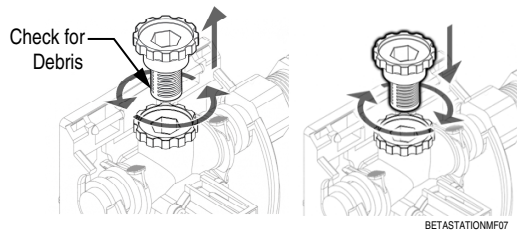

Figure 7. Checking Water Filter for Debris.
- Check water filter for debris (see Figure 7).